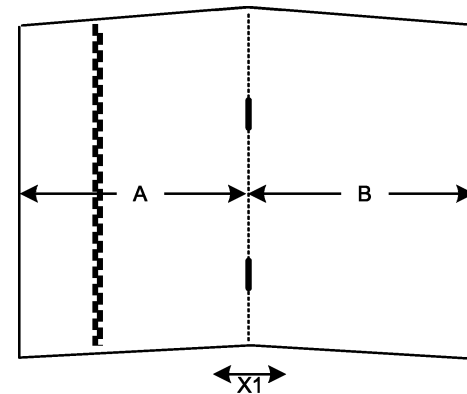

Figure 1 Measurements
6. Measure the distance between the crease and the edges of the sheet ("A" and "B" on Figure 1). The measurements should be equal, +/- 3.5 mm for A4/Letter size paper; 4 mm for all other sizes.
7. Measure the distance between the crease and the staples ("X1" on Figure 1). The measurements should be less than 2.5 mm.